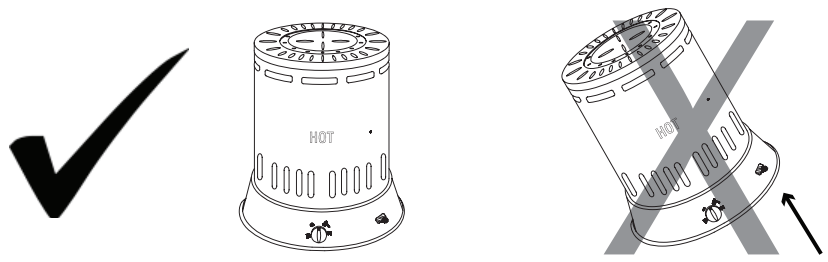

Figure 1
**⚠ AVERTISSEMENT** RISQUE D'INCENDIE! TOUJOURS PLACER LA CHAUFFERETTE SUR UNE SURFACE PLANE ET STABLE. (VOIR LA FIGURE 1)